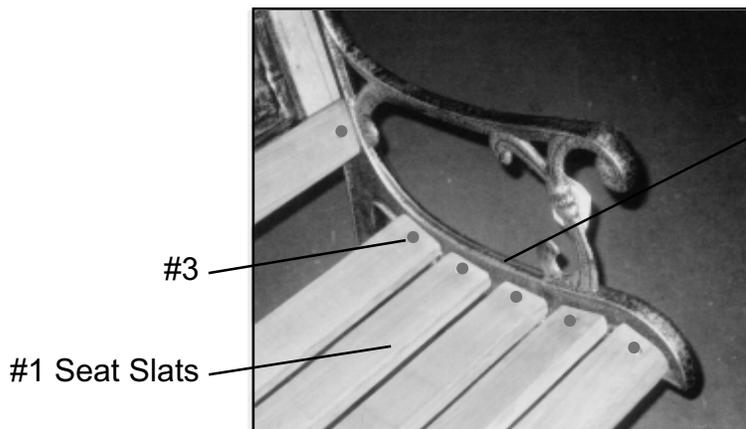

Figure 1
1. Assemble the five Seat Slats (#1) to the Cast Iron End Pieces-Right and Left (#2). Attach with ten Bolts and Nut Pairs (#3). Hand tighten. **See Figure 1 & 2.**